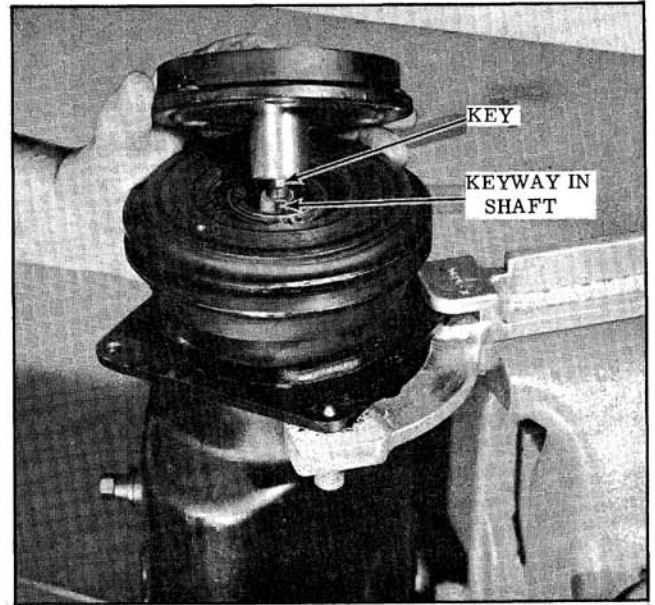

Fig. 14-84 Aligning Driven Plate Key
2. Line up the key in the hub with keyway in the shaft. (Fig. 14-84)